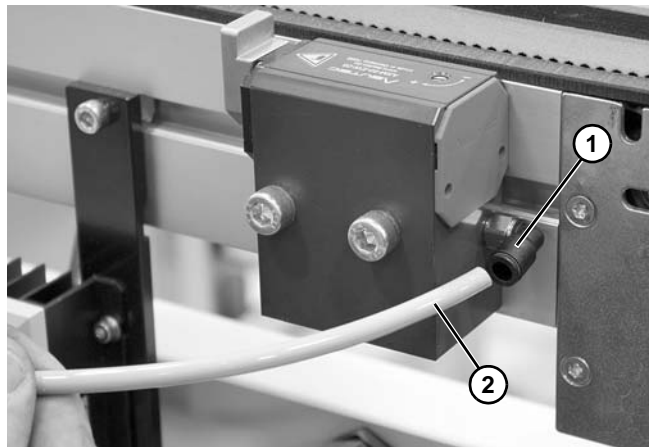

Figure 10
1. Connect the solenoid to the stop. Dorner fittings (**Figure 10, item 1**) accept 1/4" outside diameter tubing standard (**Figure 10, item 2**).